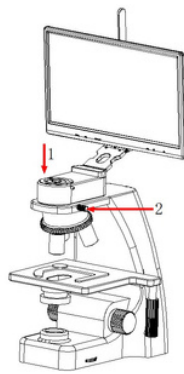

Fig. 5-5-2
- 1) Place the camera to the dovetail slot of the microscope, as shown in figure 5-5-2;